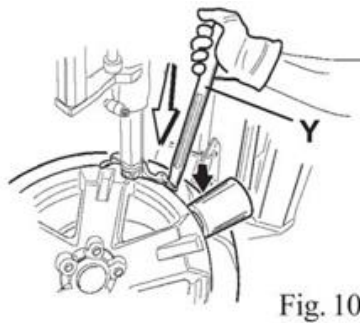
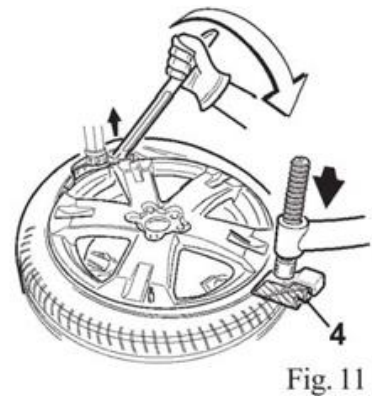

Fig. 10
Fig. 11
- Position (fig. 10) the roller at the right side of the mounting head and the bead pressing tool (4)(fig. 11) at the opposite side, so that they press slightly the tyre downwards, in order to facilitate introduction of the bead-lifting lever (Y).
- Position the bead pressing tool (4) (fig. 11) at the tool opposite side to facilitate the tyre bead positioning on the mounting head by means of the bead lifting lever (Y).